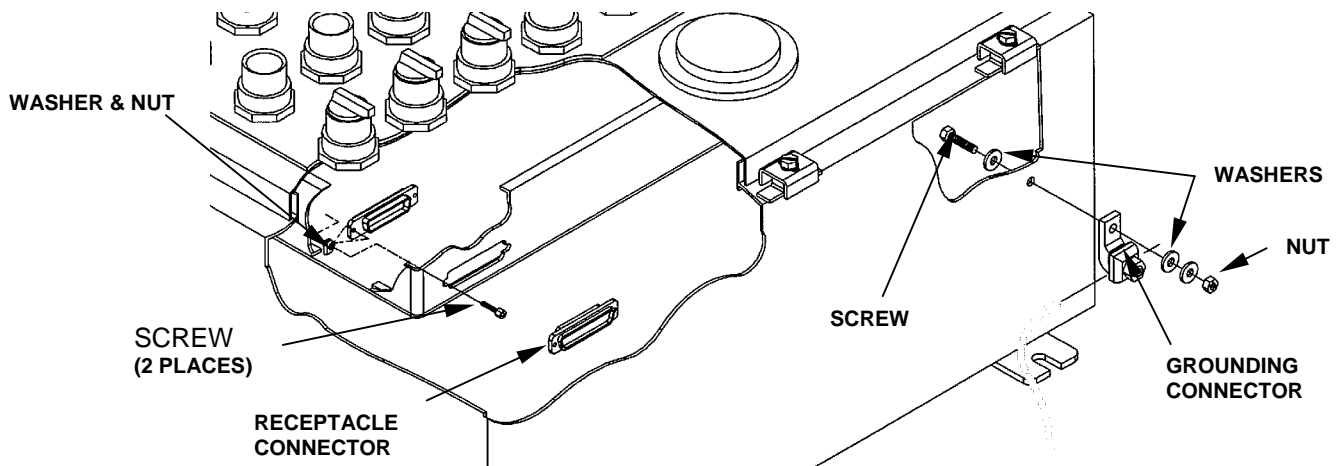

Figure 7. Ground Connector/Receptacle Connector.
2. Remove cable connector from control module. See Figure 7.
3. Remove 22 wire contacts from receptacle connector. See Figure 7.